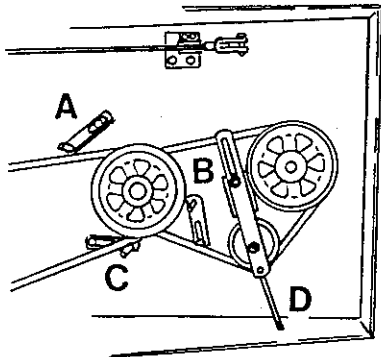

Fig. 5
- a. To tighten transmission belt, tighten 5/16 nyloc nut located near the right corner of the engine mounting deck. See Figure 5, Point D.
- b. Check belt guides under rear deck to see that they are properly set. See Figure 5. When blades are engaged, there should be  $1/4$ " clearance between belt guide A and B, and  $1/8$ " clearance between belt guide C. The disengaged belt should not drag or fall off pulley when guide B is properly adjusted.
Check belt guides under rear deck to see that they are properly set. See Figure 5. When blades are engaged there should be 1/4" clearance between belt and belt guides A and B, and 1/8" clearance between belt and belt guide C. the disengaged belt should not drag or fall off pulley when guide B is properly adjusted.